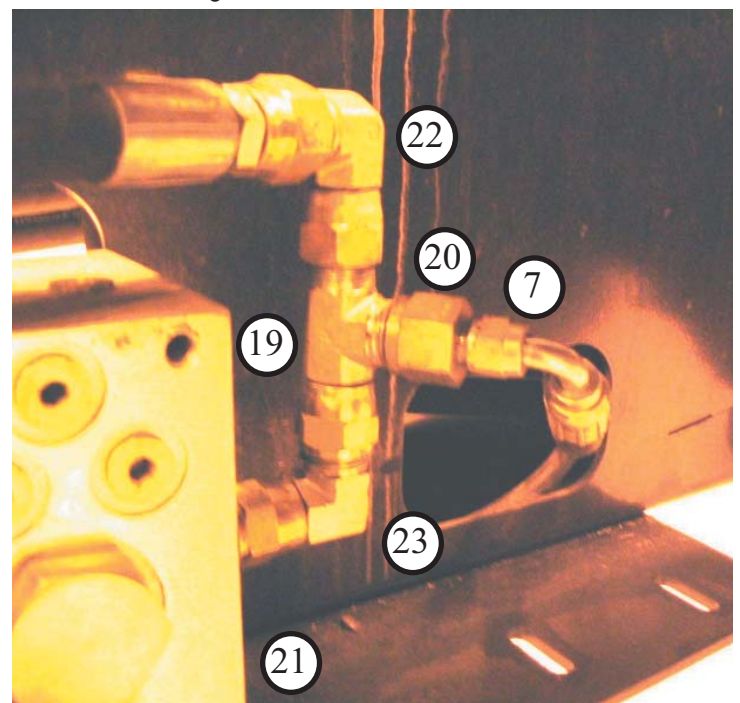

Figure 2.8 - Return Circuit Assembly
3. Separate the existing hydraulics between (#22) and (#23) in *figure 2.8*